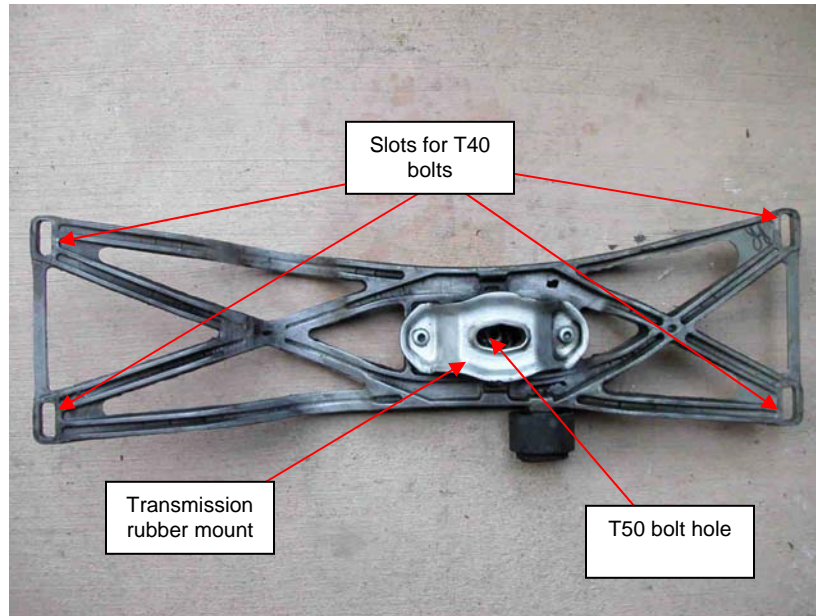

Fig. 7 Bottom view of transmission support bracket
- c. Remove the transmission bracket and rubber mount as a unit by removing the bolt in the center of the bracket/mount using a T50 driver. Place the bracket/mount aside (see Fig. 7)